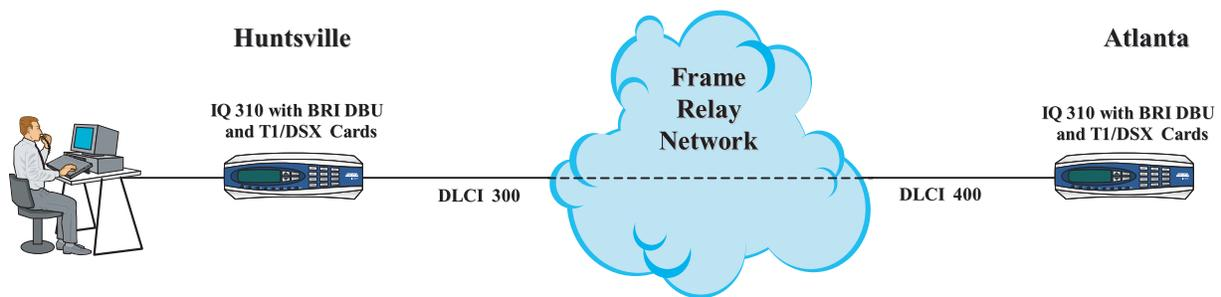

Figure 1. Remote Configuration
*When entering the DLCI for a remote application, enter the DLCI associated with the local unit that you are logged into (not the far end DLCI). The correct local unit DLCI for that remote site may be determined by looking for the active DLCI in the **VIEW STATISTICS > NETWORK PORT > DLCI LIST** menu. In Figure 1, a user trying to configure the Atlanta unit from the Huntsville site would enter a DLCI of 300.*